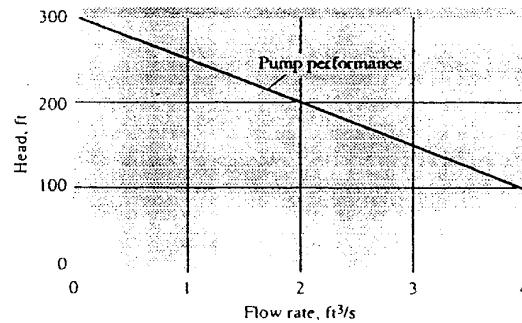

Fig. P3.142
**3.142** A typical pump has a head which, for a given shaft rotation rate, varies with the flow rate, resulting in a *pump performance curve* as in Fig. P3.142. Suppose that this pump is 75 percent efficient and is used for the system in Prob. 3.141. Estimate (a) the flow rate, in gal/min, and (b) the horsepower needed to drive the pump.